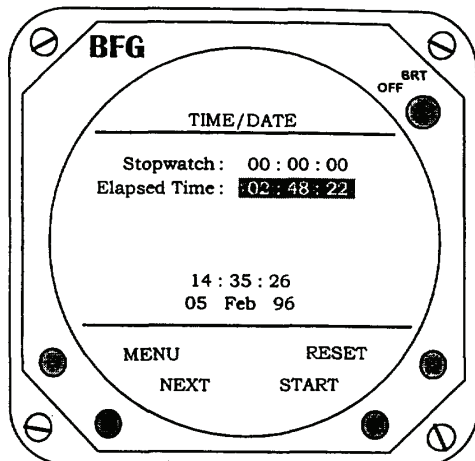

Figure 3B-154. Time/Date Mode
(4) *Time/Date Mode.* The TIME/DATE mode can be selected only from the main menu. The time/date mode menu displays four items: stopwatch, elapsed time, time of day, and day, month, and year. Refer to Figure 3B-155. When first selecting the time/date mode, the stopwatch digits will be highlighted. To use the stopwatch function, press the **START** button to start or stop. Pressing the **RESET** button will immediately reset the timer. To use the elapsed time feature, press the **NEXT** button to highlight the elapsed time digits and press the **START** button to start or stop the counter. Pressing the **RESET** button will reset the elapsed timer.